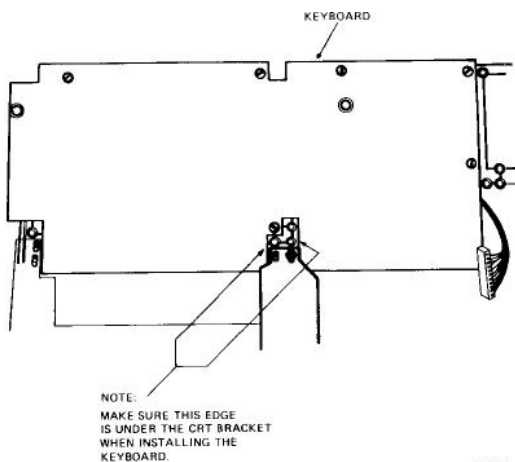

Figure 3-7 Removing and Replacing the Keyboard
3.8 REMOVING AND REPLACING THE KEY BOARD (Figure 3-7)